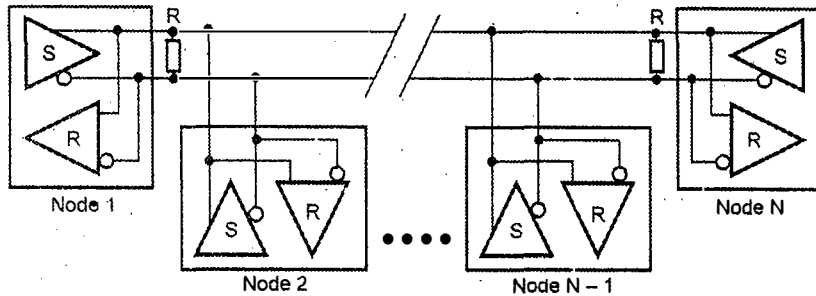

Fig. Q.2.1 Network topology of EIA485
- The equipment located along a set of EIA-485 wires are interchangeably called nodes, stations and devices. The network topology used by EIA 485 is shown in Fig. Q.2.1.